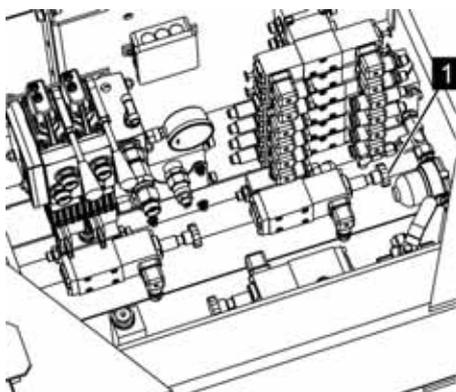

Fig. 115: Shuttle valve
8. ▶ After service operation, unlock the shuttle valve (Fig. 115/1).
- Make sure that the shuttle valve (Fig. 115/1) is completely unlocked for normal operation.